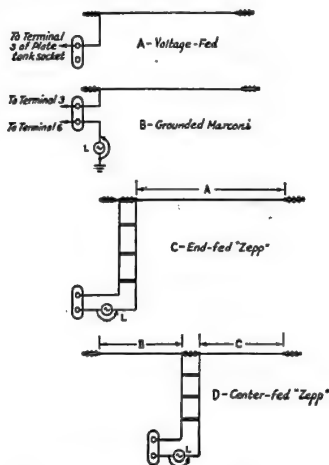

Fig. 26 — Simple antenna systems recommended for use with the beginner's transmitter. Suitable dimensions are given in the table on the preceding page.
**I**N MOST cases, the lowest frequency band at which it is desired to operate, the available space and the locations of suitable supports for the antenna will dictate the size and type of the antenna system. Four types are shown in the diagrams of Fig. 26, with the dimensions for various bands given in the table on this page.
With the end-fed "Zepp" type, the lengths given in the table are for the distances between the two antenna insulators as indicated by dimension "A," while the lengths given in the table for the center-fed antenna are the sum of dimensions "B" and "C" shown in Fig. 26-D.
To obtain maximum output on the fundamental some sort of r.f. output indicator is required. A thermocammeter with a scale of 1 ampere is desirable, but a cheap and quite satisfactory substitute is a 60-ma. dial light similar to those used in the panel of the transmitter. The insulation of one of the feeder wires should be removed between the transmitter and the feed-through insulator at the window where the feeders enter, and the dial light should be connected in series with this feeder, as shown in Fig. 26. A strap of insulated wire two or three feet long should be shunted around the lamp as shown. One end of the shunt wire should be connected to the antenna output terminal and a clip placed at the other end. This clip should be attached to the opposite terminal of the lamp. Now, with the transmitter running and loaded as previously described, move the clip along the feeder away from the lamp a little at a time until the lamp shows a dim glow. If parallel tuning is used it may